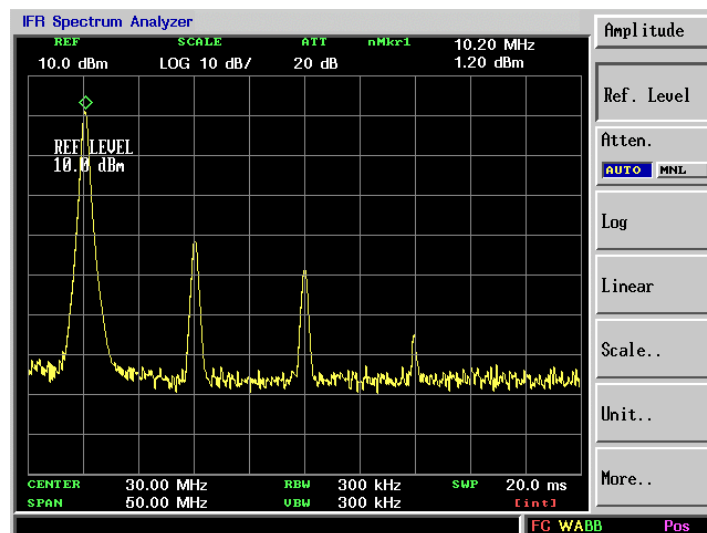

Figure 2-1. Placing a Marker on the 10 MHz Signal
4. Press **PEAK** to place a marker at the highest peak on the display. (The *NPeakRight* and *NPeakLeft* softkeys are available to move the marker from peak to peak.) The marker should be on the 10 MHz reference signal. See Figure 2-1.